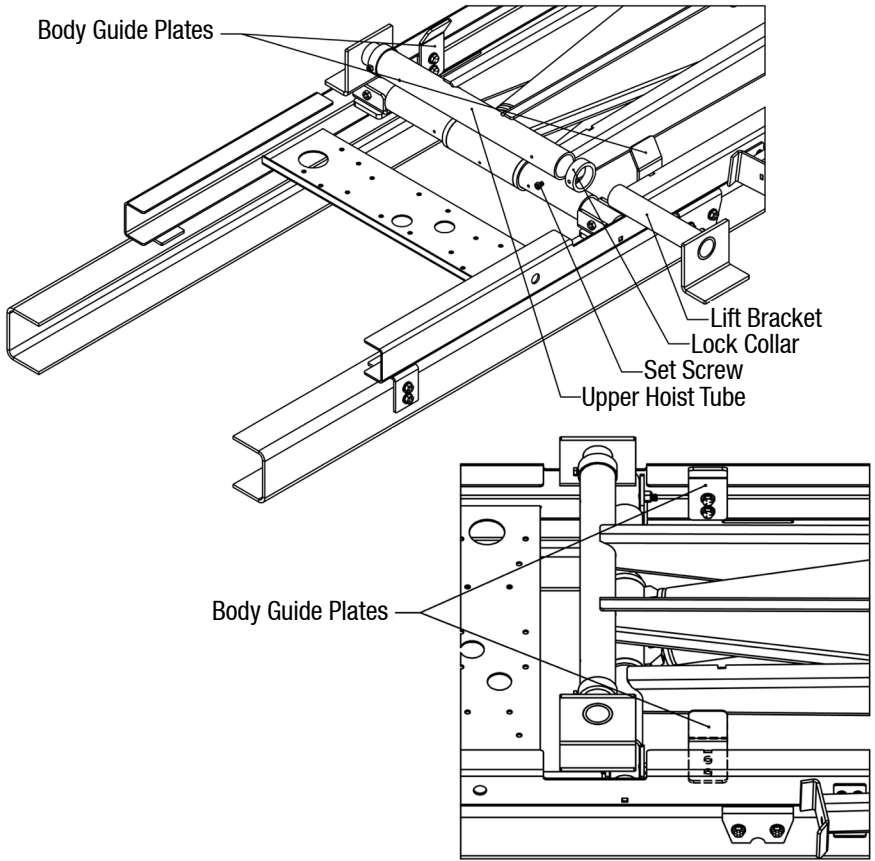

Figure 8: Lift Shaft & Body Guide Installation
5. Slide a lock collar onto each lifting shaft, and then slide the shafts into each end of the upper hoist tube (Figure 8).
6. Install a body guide plate onto each sub-frame rail using a set of bolt holes provided. Fasten guides using the supplied hardware (Figure 8).